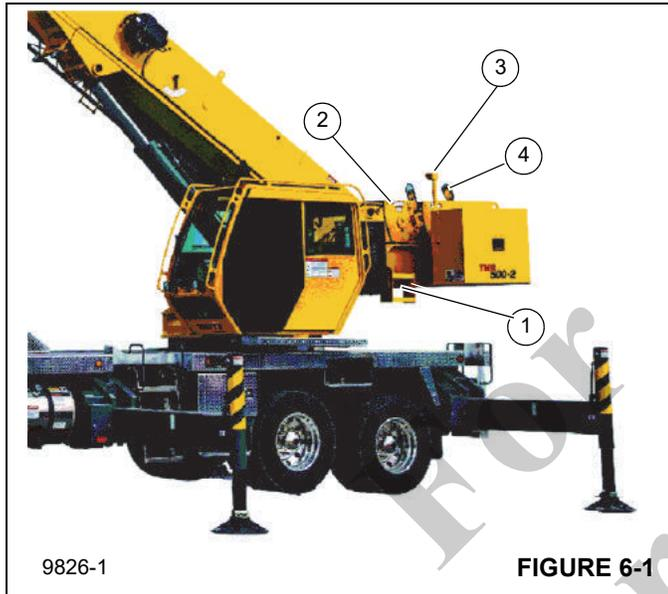

FIGURE 6-1
The hoist platform (1), (Figure 6-1) is provided to allow for inspection and maintenance activities to be performed at the hoist area (2), (Figure 6-1).
Use the ladder (1) to access the hoists (2), hoist camera (3), and hoist mirror(s) (4) as shown in (Figure 6-1).